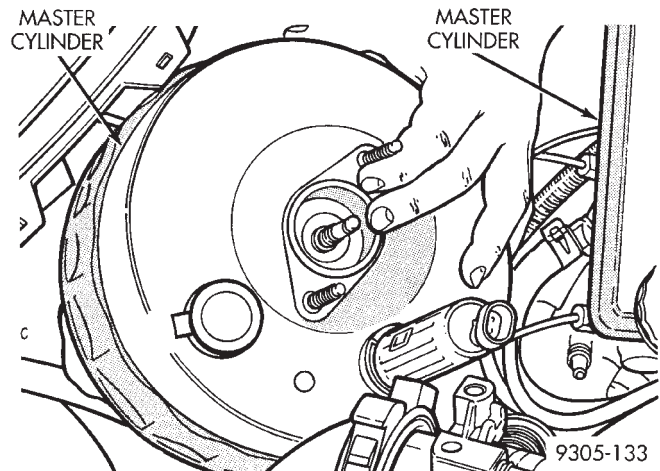

Fig. 5 Removing Power Brake Booster
(10) Slide the power brake unit up and to the right (mounting holes are slotted) on the dash panel, then tilt outboard and up to remove (Fig. 5).